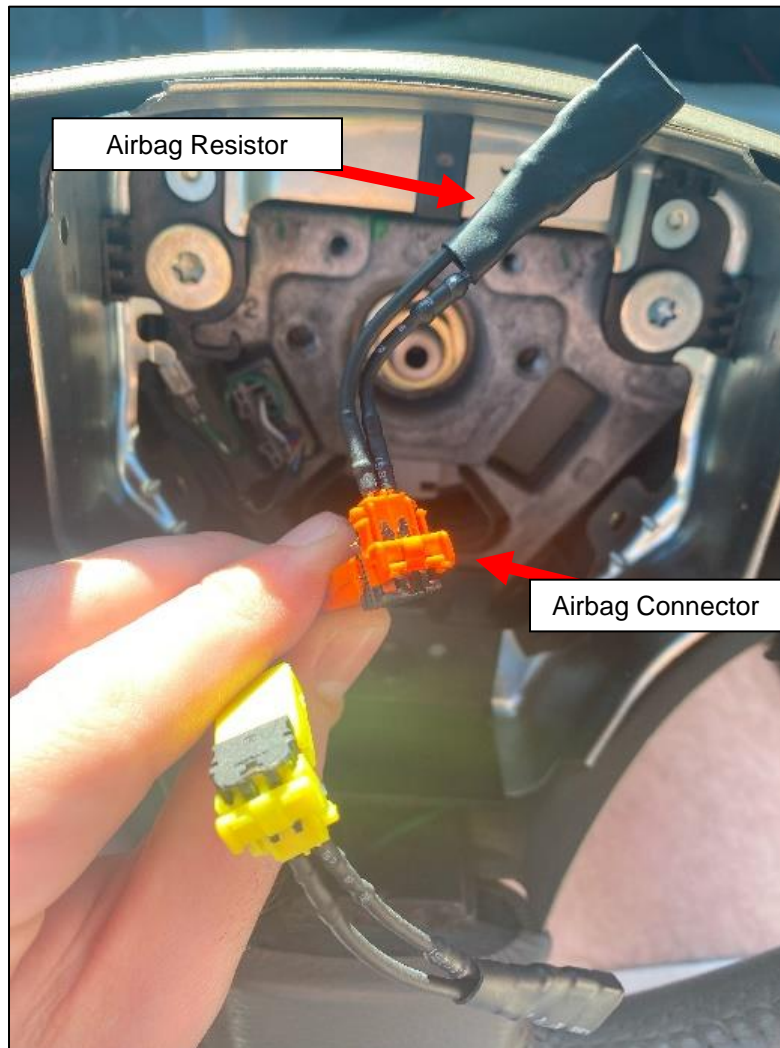

Figure 8
16. Locate the (2) two Airbag Resistors. Plug (1) one into each Airbag Connector disconnected in *Step 8*. These will prevent the car from throwing an Airbag Code. Wrap the Connectors and Resistors with electrical tape to prevent them from coming apart. Tuck them into the Steering Wheel after taping. *Figure 8*.